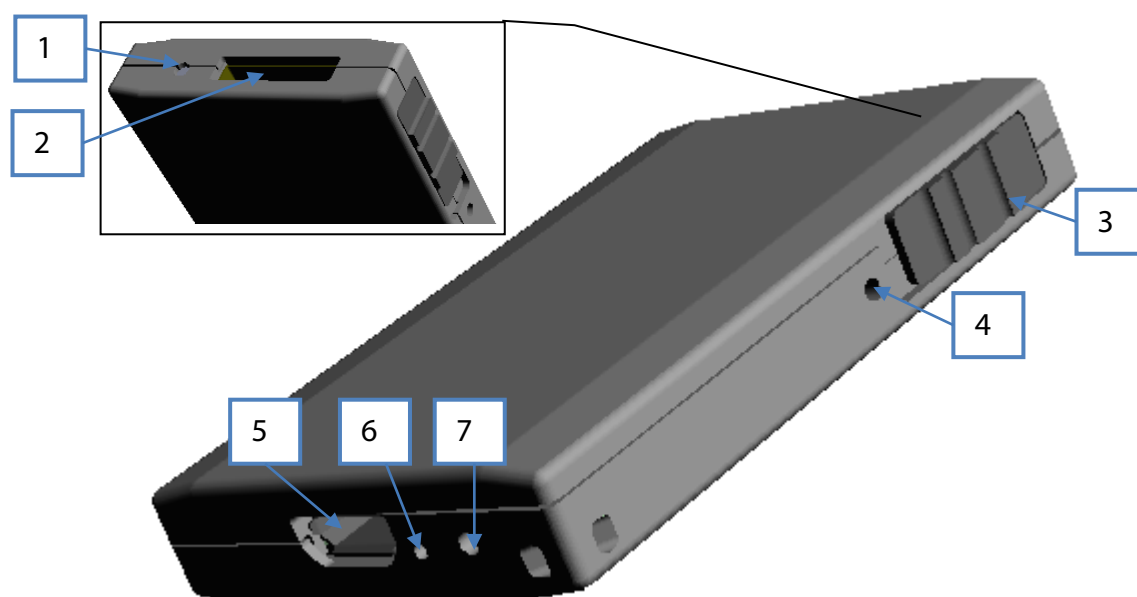

Figure 1: Indication of parts and controls.
The recorder comes in a black metal case. Device overall view with indication of parts is shown on Figure 1. Device part description is listed in Table 1.
To prevent accidental disconnection from the device connector (2 in Figure 1), the microphone plug (1) is fitted up with plunger pin. Each **Type 2** microphone is also supplied with a wire loop (4) for fastening it to clothes.
The red LED (6 in Figure 1) will light up and remain on continuously until the battery is fully charged.
To start recording manually, move the **ON/OFF** slide switch (**3** in Figure 1) to the **●REC** position (or the remote control switch in the **ON** position). To stop recording, move back the **ON/OFF** switch to the **■STOP** position or remote control to the **OFF** position.
The remote control replicates the positions of the **ON/OFF** slide switch (**3** in Figure 1). See the description in the table below:
- Move the recording slide switch located on the device case (**3** in Figure 1) to the **● REC** position or the remote control switch to the **ON** position.